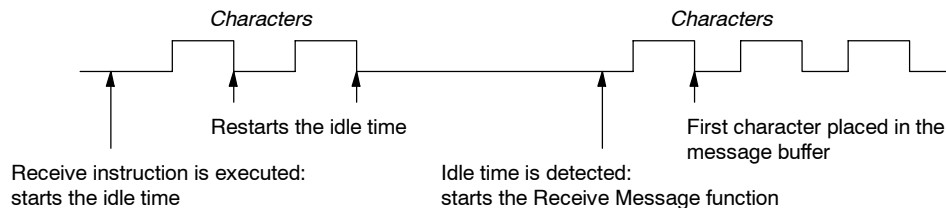

Figure 6-10 Using Idle Time Detection to Start the Receive Instruction
1. **Idle line detection:** The idle line condition is defined as a quiet or idle time on the transmission line. A receive is started when the communications line has been quiet or idle for the number of milliseconds specified in SMW90 or SMW190. When the Receive instruction in your program is executed, the receive message function initiates a search for an idle line condition. If any characters are received before the idle line time expires, the receive message function ignores those characters and restarts the idle line timer with the time from SMW90 or SMW190. See Figure 6-10. After the idle line time expires, the receive message function stores all subsequent characters received in the message buffer.